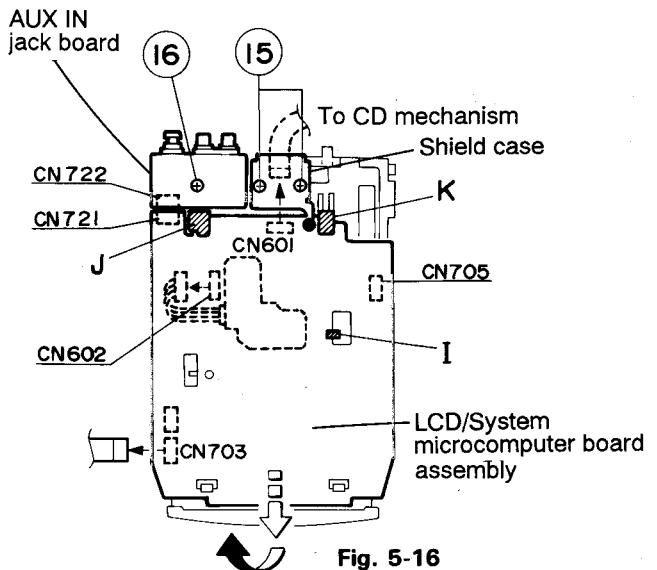

Fig. 5-16
◆ **Removing the LCD/System microcomputer and AUX IN jack boards (Figs. 5-16 and 5-17).**
1. Remove the soldered section of the shield case from the rear of the CD traverse mechanism and remove two screws ⑯ (Fig. 5-16).
2. Remove the screw ⑯ securing the AUX IN jack board. Then, remove connector CN722 from connector CN721 on the LCD/System microcomputer board (Fig. 5-16).
5. Release three claws (I, J, K) securing the LCD/System microcomputer board and shift and lift up the whole board toward you for removal (Fig. 5-16).